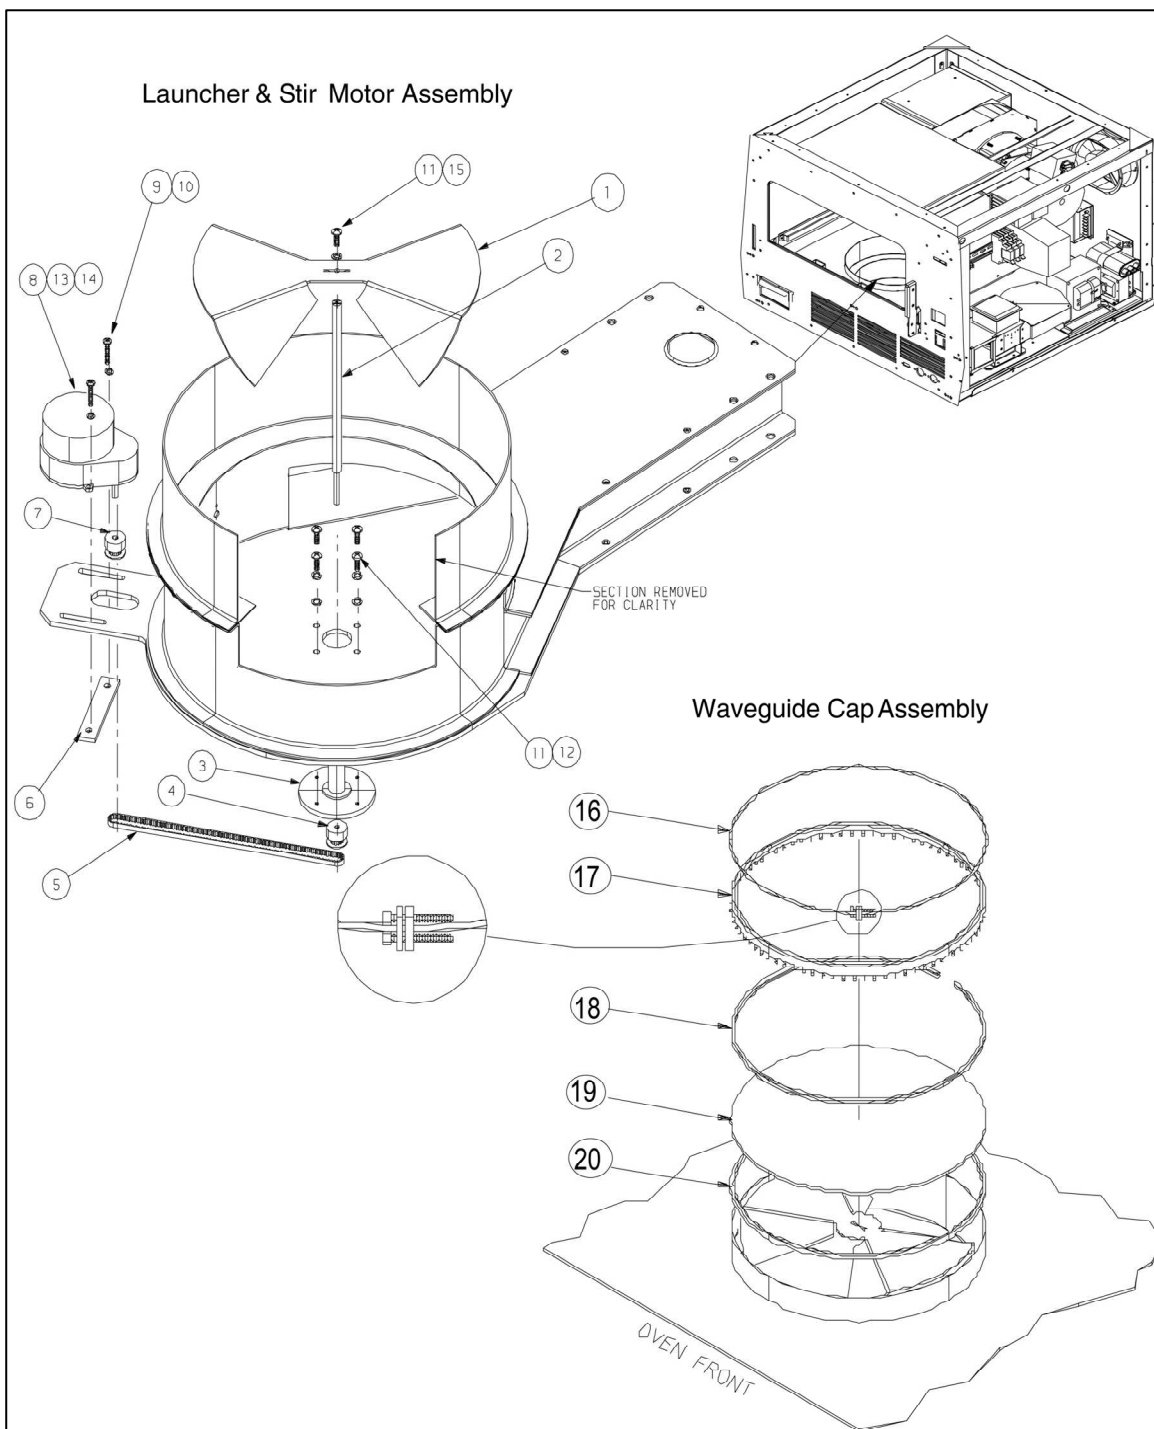

Figure 9-6: Waveguide Assy
### WAVEGUIDE COMPONENTS PARTS LIST: See Figure 9-6
**WAVEGUIDE COMPONENTS PARTS LIST (con't): See Figure 9-6**